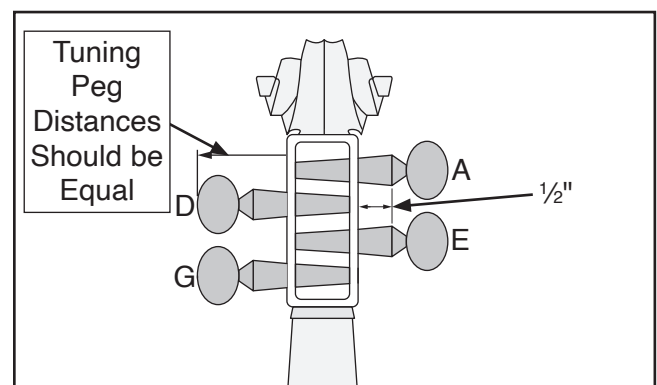

Figure 11. Test fitting tuning pegs.
6. Repeat **Steps 1–5** for (3) remaining tuning pegs.
7. Place marked tuning pegs in corresponding holes and check alignment (see **Figure 11**).